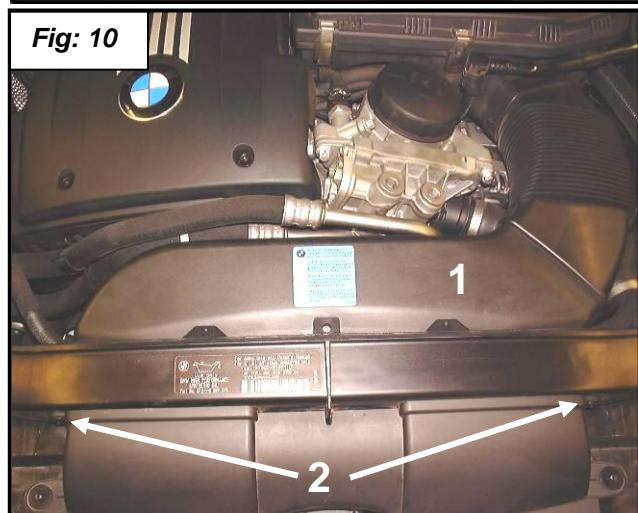

Fig: 10
15. Remove the air duct (1) that goes from the top of the radiator to the air box by removing the screws (2). **See figure 10.**